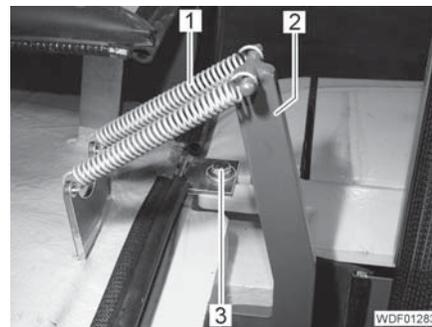

Fig. 279 Engine hood attachment
- Using suitable tools, unhook 2 springs each (Fig. 279,1) on the holder (Fig. 279,2).
- In each case, loosen 1 screw (Fig. 279,3) but do not unscrew it.
- Unscrew 1 screw (Fig. 279,3) in each case.
- Loosely screw in and tighten 1 screw each (Fig. 279,3) with spring lock washer and disk.
- Align the engine hood and tighten 1 screw (Fig. 279,3) in each case.